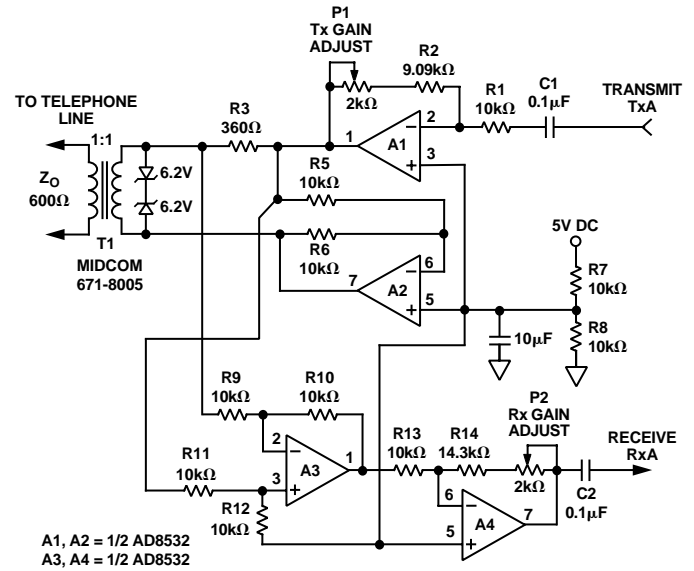

Figure 42. A Single-Supply Direct Access Arrangement for Modems
Figure 42 illustrates a 5 V only transmit/receive telephone line interface for 600 W transmission systems. It allows full duplex transmission of signals on a transformer coupled 600 W line in a differential manner. Amplifier A1 provides gain that can be adjusted to meet the modem output drive requirements. Both A1 and A2 are configured to apply the largest possible signal on a single supply to the transformer. Because of the high output current drive and low dropout voltage of the AD8531/AD8532/AD8534s, the largest signal available on a single 5 V supply is approximately 4.5 V p-p into a 600 W transmission system. Amplifier A3 is configured as a difference amplifier for two reasons: (1) It prevents the transmit signal from interfering with the receive signal and (2) it extracts the receive signal from the transmission line for amplification by A4. A4's gain can be adjusted in the same manner as A1's to meet the modem's input signal requirements. Standard resistor values permit the use of SIP (Single In-line Package) format resistor arrays.